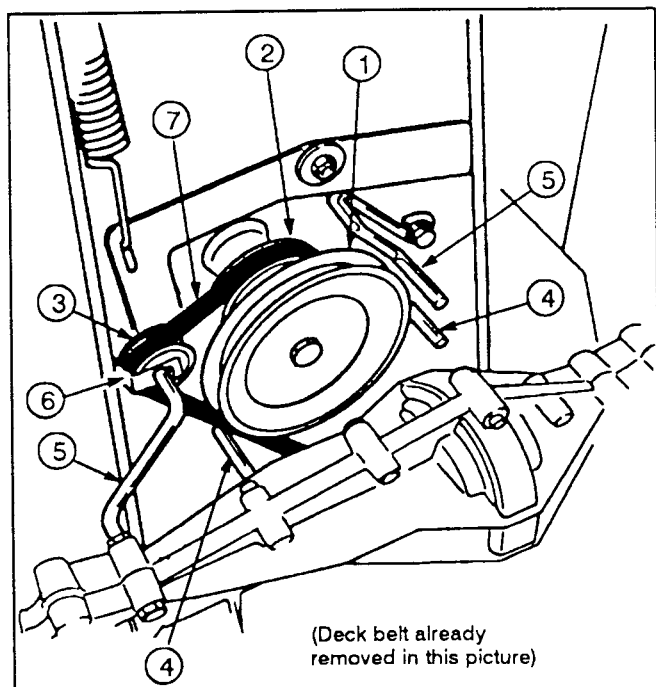

Figure 26
4. Remove traction drive belt and inspect it for damage or wear (Fig. 26). If needed, install a new belt.
6. Install belt guides by the transmission pulley (Fig. 26). Also install belt retainer on idler pulley and tighten the locknut.